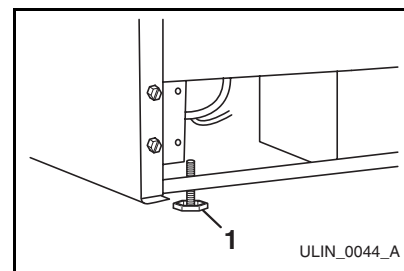

Figure 13
2. If the unit is not level, adjust the feet on the corners of the unit as necessary (**Figure 13**).